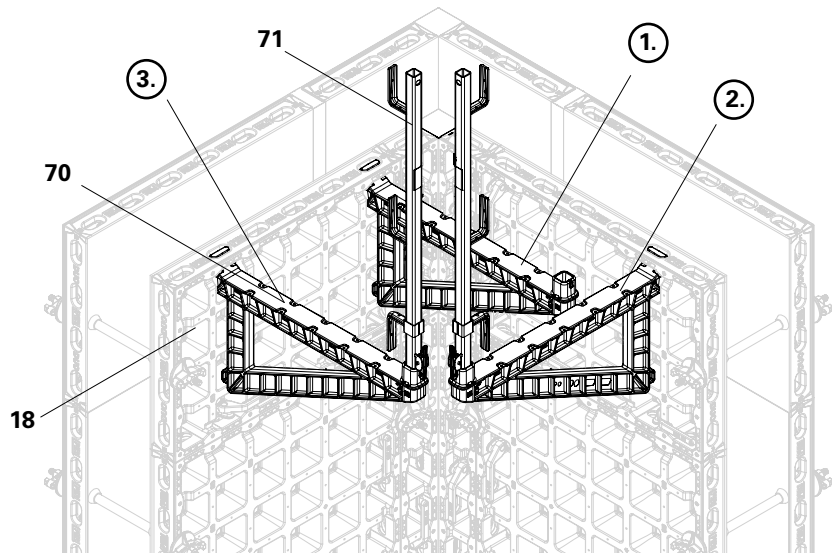

Fig. B4.12
The DUO 70 scaffold bracket (70) as well as the DUO front post holder (73) can be mounted on the DP 60 panels (18). (Fig. B4.12)